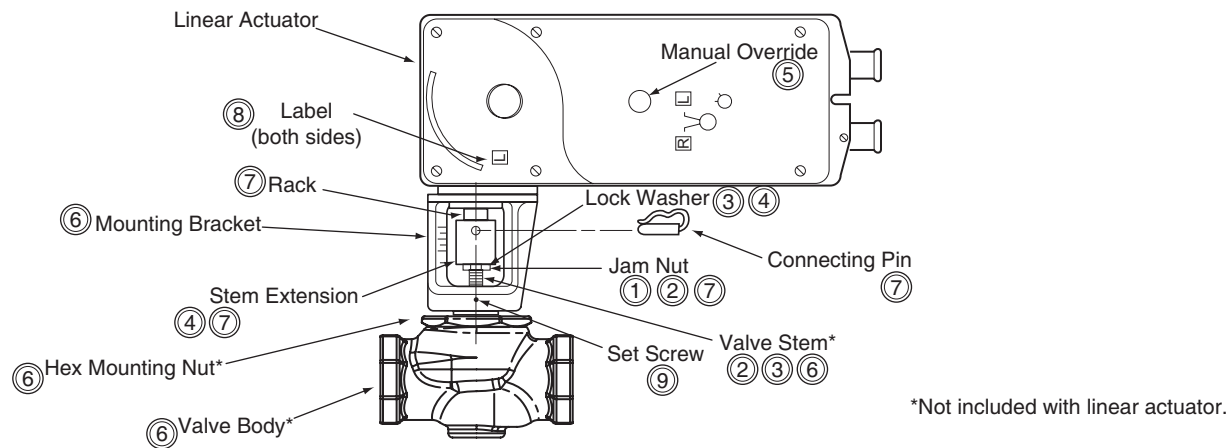

Figure-11 Typical Assembly and Installation of Mx51 Series Actuator to 1-1/4" to 2" VB-7xxx Series Valve Bodies, Stem-Up Closed or Open, 2-Way and 3-Way Valves.
1. Install the actuator onto the valve. Set up the assembly according to the numbered steps in Figure-11.